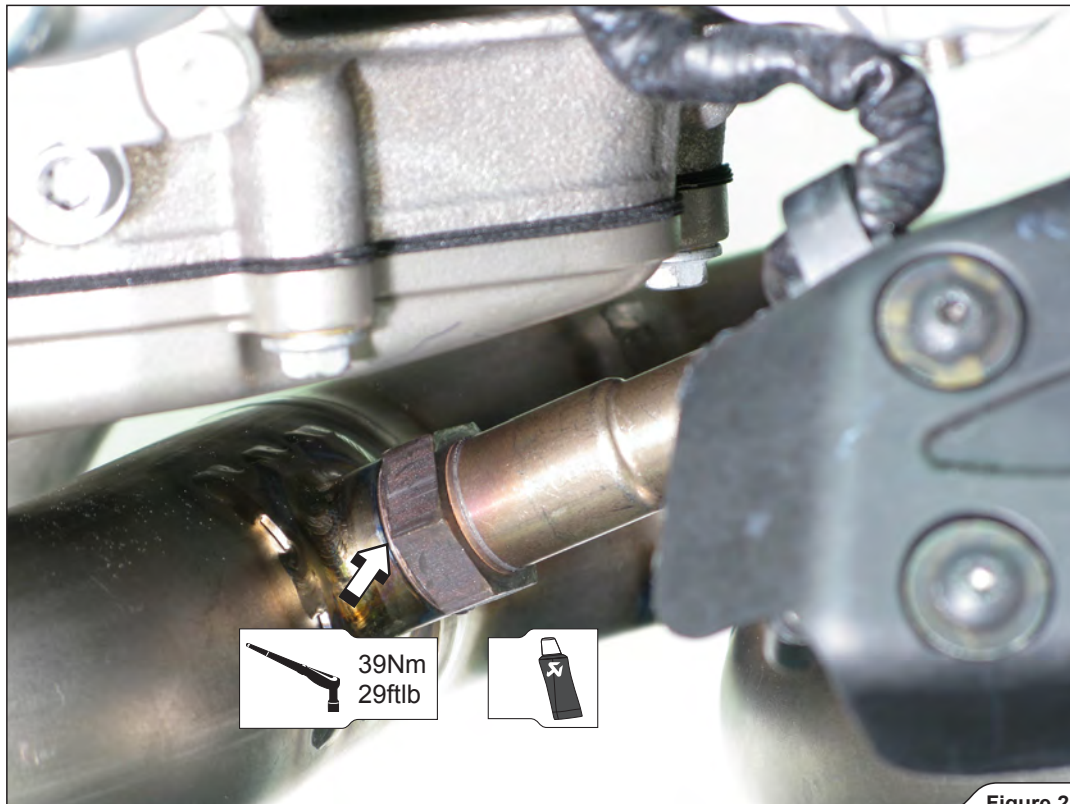

Figure 25
5. Tighten the lambda sensor; make sure not to damage the sensor's electrical lead during this process (Figure 25).